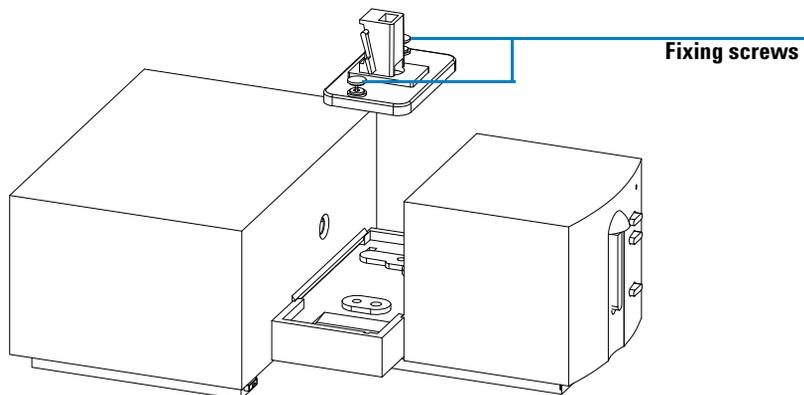

Figure 2 Mounting the Cell Holder
- 1 Put the cell holder into the sample compartment and tighten the two fixing screws. See Figure 2.